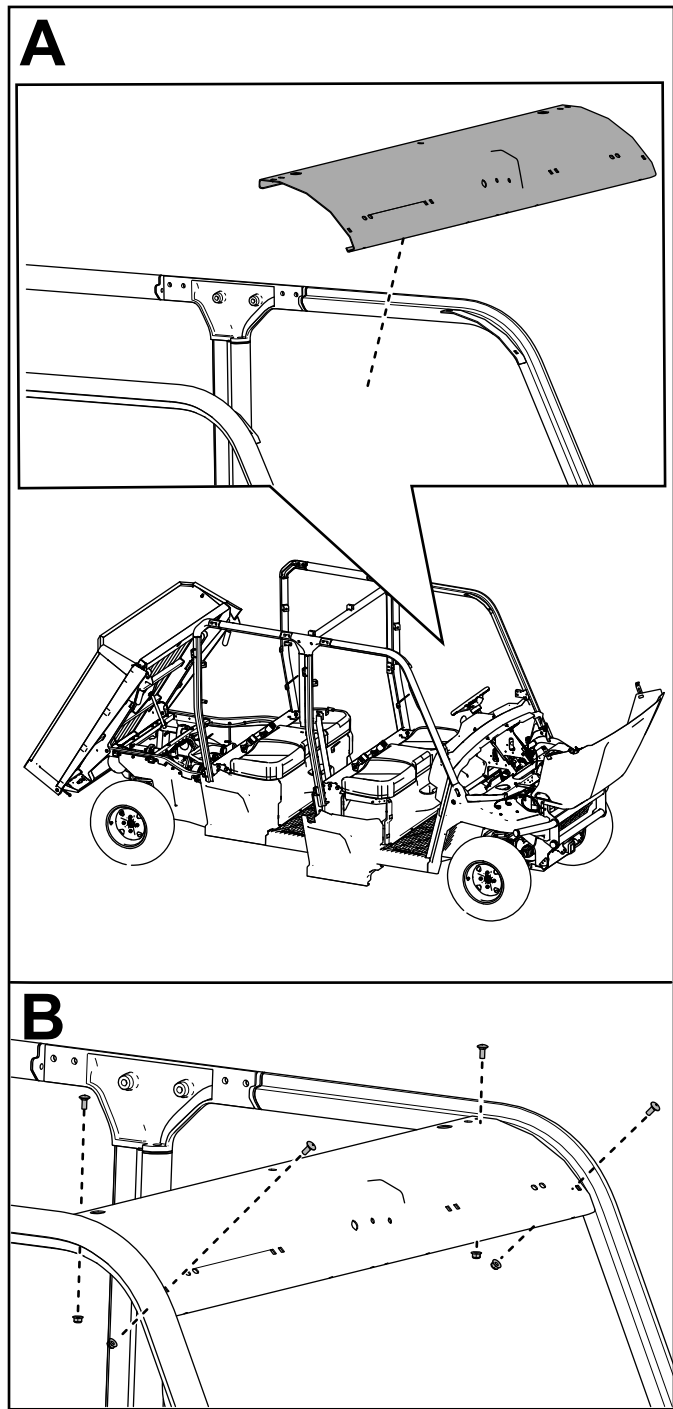

Figure 42
15. Secure the front crosslink to the front roll bar assemblies using 4 carriage bolts (5/16 x 3/4 inch) and 4 locknuts (5/16 inch) as shown in Figure 42.